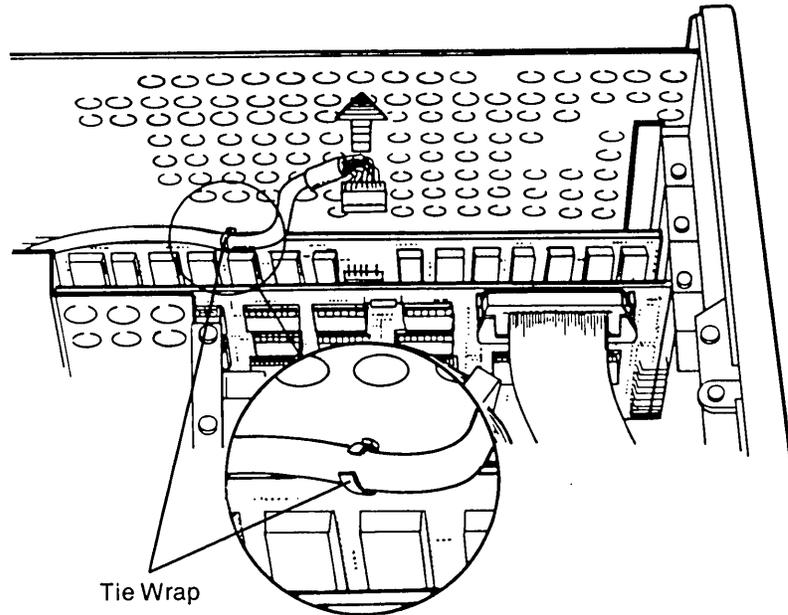

Figure 7-21. Location and Removal of VDU Signal Cable.
- 5 Mounted on the VDU board assembly, is a cable-tie which secures the VDU signal cable to the VDU board assembly. Locate this tie wrap and carefully cut it, then disconnect the VDU signal cable from the VDU board (see Figure 7-21).